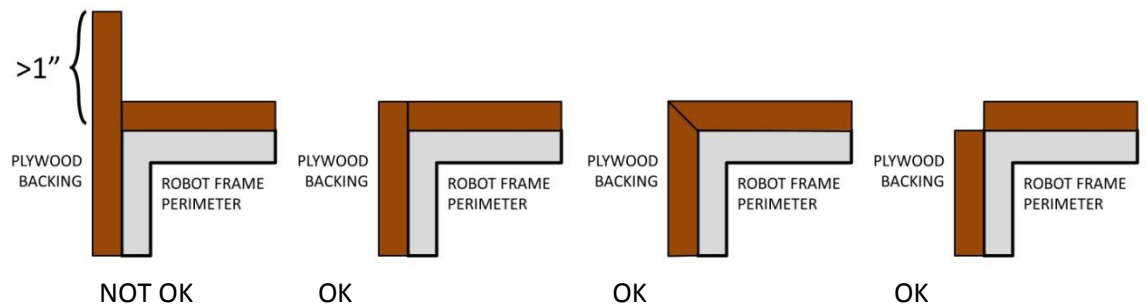

Figure 4-4
**[R28]** Bumpers must be constructed as follows (see Figure 4-4):
- hard Bumper parts (e.g. plywood, fasteners, etc) may not extend more than 1 in. beyond the end of the Frame Perimeter (see Figure 4-4).